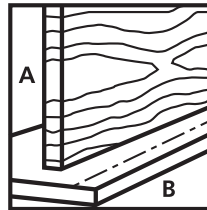

Figure 11
- Align two boards in the finish position and mark them "A" and "B". Mark a line on board B for the centre points of the dowels. See Figure 11.